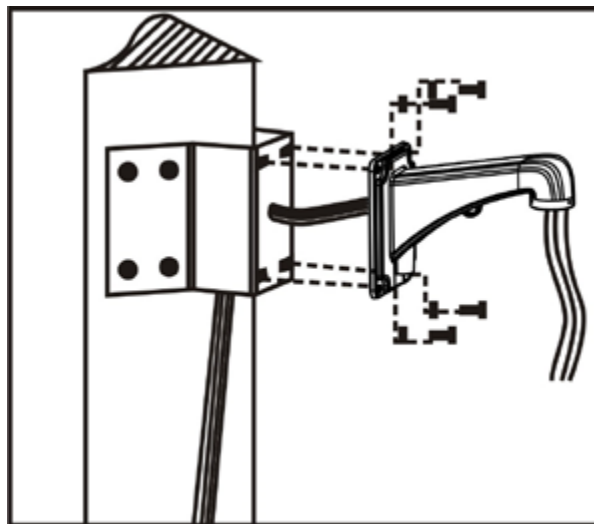

Fig. 7
c. As shown in Fig7, fix the wall hanging bracket with all cables power through it on the corner mounted attachment.